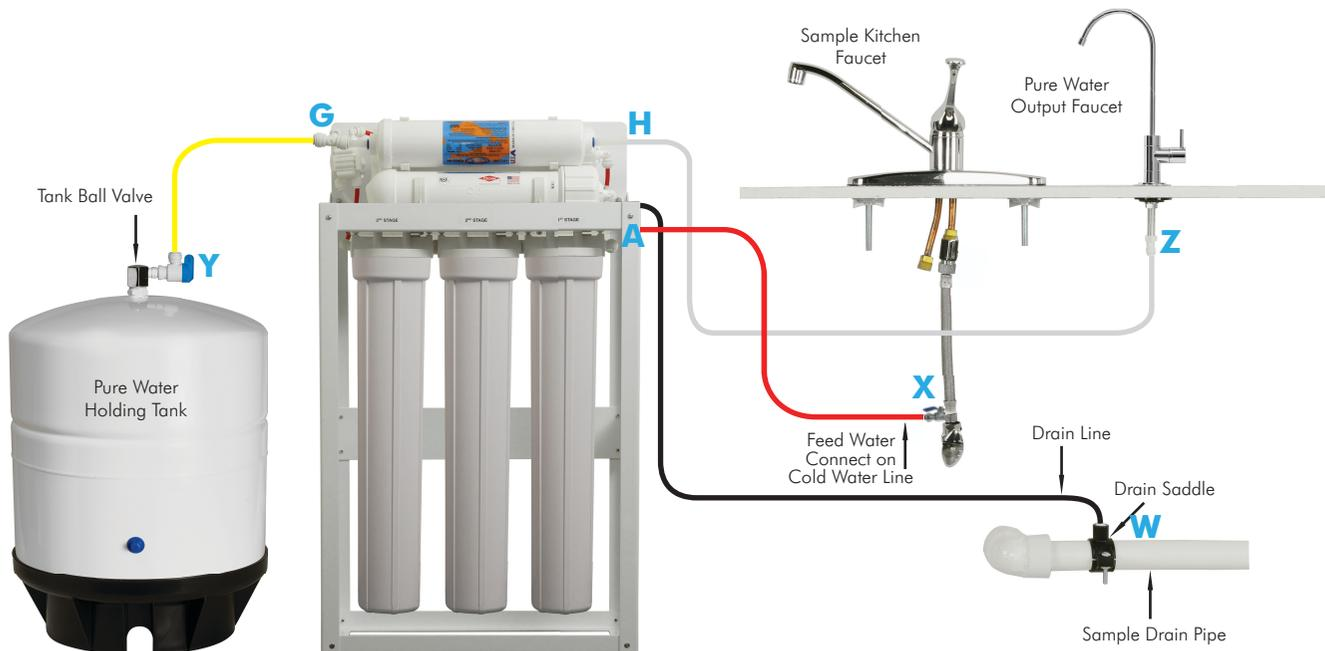

Fig. 6
To ensure a smooth and correct installation, please connect the water lines in the order outlined below. Refer to **Fig.6** for proper point locations.
2. Remove the OLD filter: Disconnect the input 3/8" tubing at Point **G**. and output 3/8" tubing at Point **H**. Discard the old filter. (See **Fig.6** on Page 10)